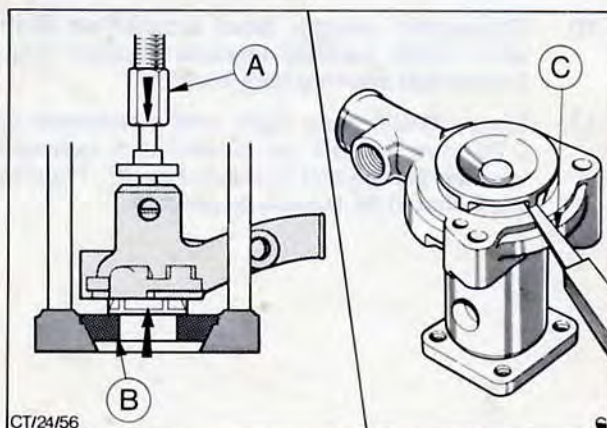

Fig. 14. Pressing impeller onto shaft and checking clearance with feeler gauges
6. Using ring and thrust block adaptor, Fig. 14 press pump pulley hub onto front end of shaft until end of shaft projects 1,5 mm (0,06 in) from end of hub.
8. Press impeller onto shaft, Fig. 14, until a clearance of 0,8 mm (0,03 in) is obtained between impeller blades and housing face.